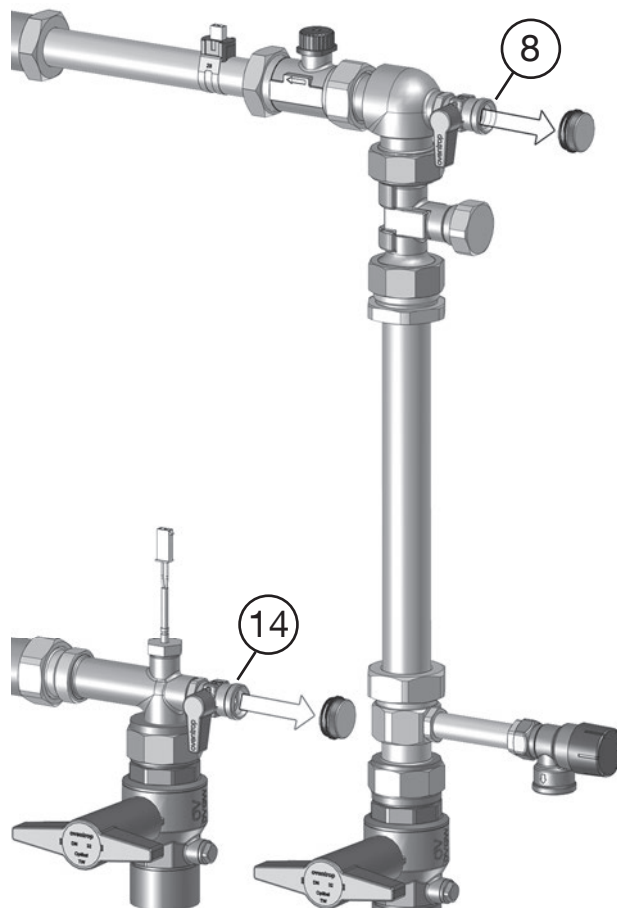
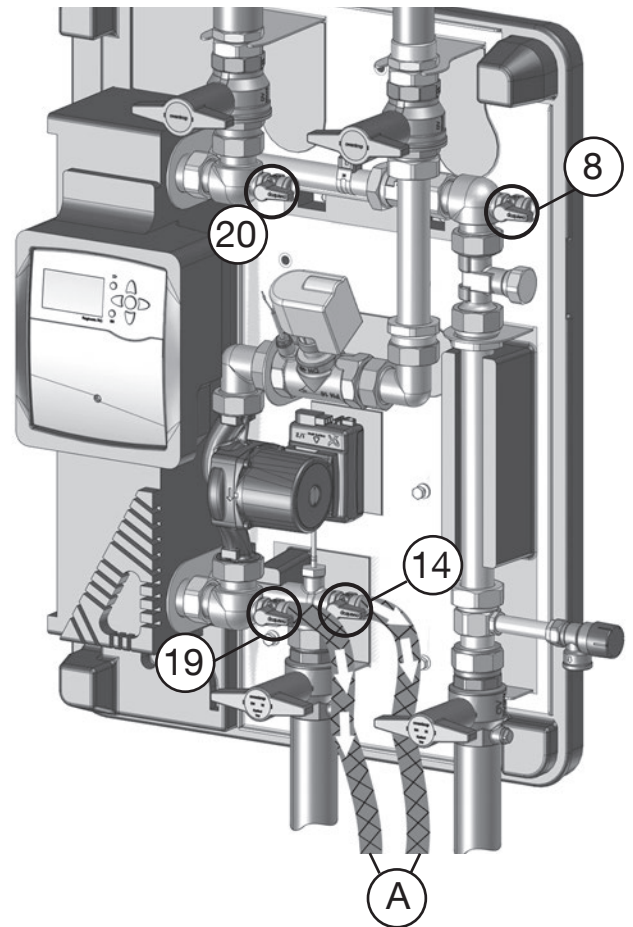

Fig. 5.2: Unscrew the caps from the fill and drain ball valves
Fig. 5.5: Drain the pipes and the heat exchanger
3. Unscrew the caps from the fill and drain ball valves (8 and 14) (Fig. 5.2).
3. Unscrew the caps from the **fill and drain ball valves** (see Fig. 5.2 on page 31, pos. 8, 14, 19, 20).
4. Equip each of the lower fill and drain ball valves (14 and 19) with a **drainage hose (A)**.
5. Open the fill and drain ball valves (8, 14, 19 and 20) to drain the pipes and the heat exchanger (Fig. 5.5).